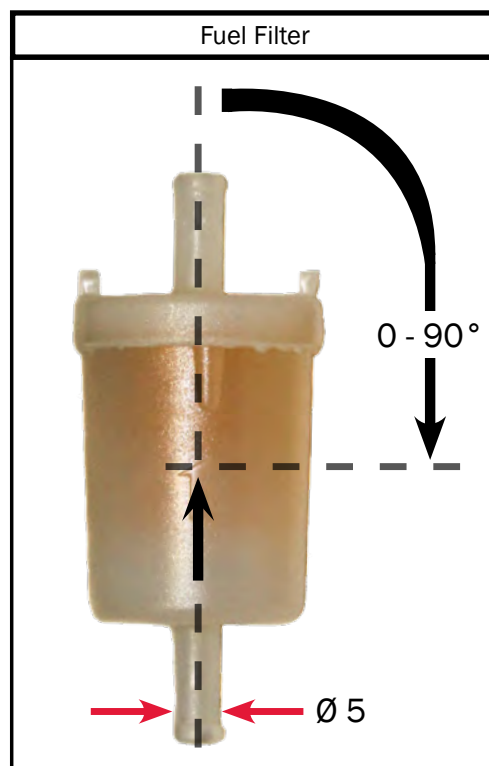

Figure 96
- The filter can be mounted vertically or horizontally; note the installation position and direction of flow (see Figure 96).